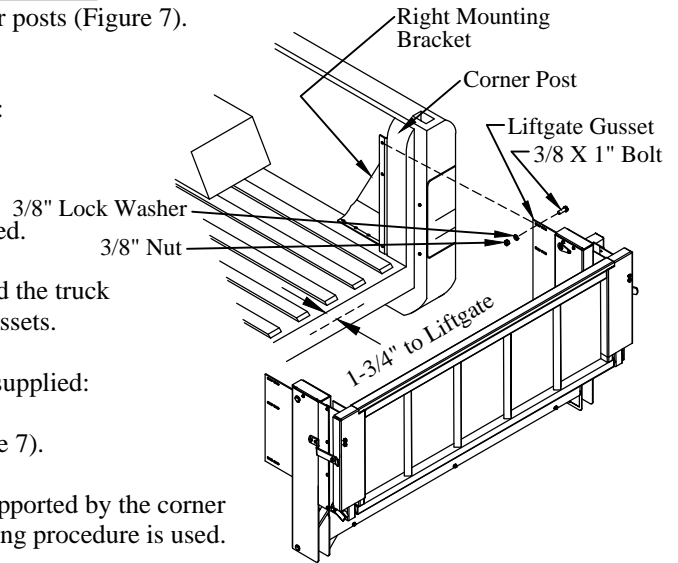

Figure 7: Mounting bracket and liftgate.
1. **Position** the mounting brackets into the truck bed in front of the corner posts (Figure 7).
- (3) 3/8"x1" hex head bolts on the bracket-side (Figure 7).
- (3) 3/8" lock washers, and (3) 3/8" nuts on the gusset-side (Figure 7).